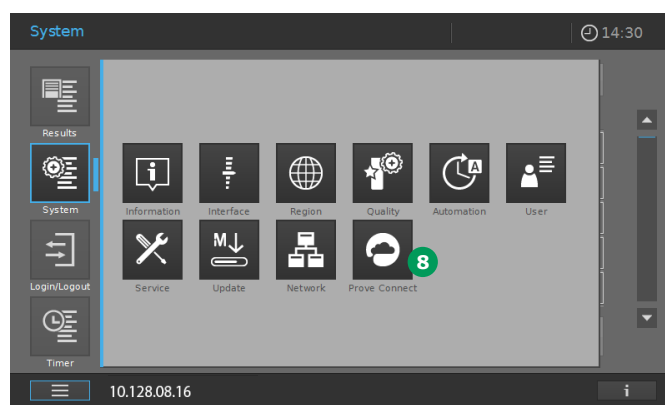

Figure 36 - Screen of Spectroquant® Prove after closing the "Network" window (Figure 35)
4. Enable Prove Connect in the Prove System menu **8** (Figure 36).